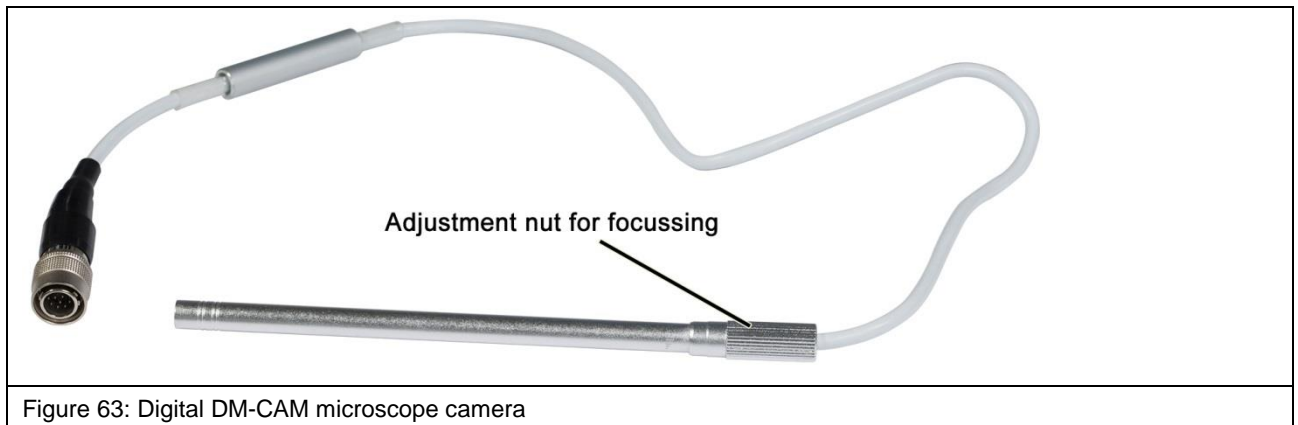

Figure 63: Digital DM-CAM microscope camera
- The focus can be adjusted with the adjusting nut (Figure 63) at the rear end of the DM-CAM.